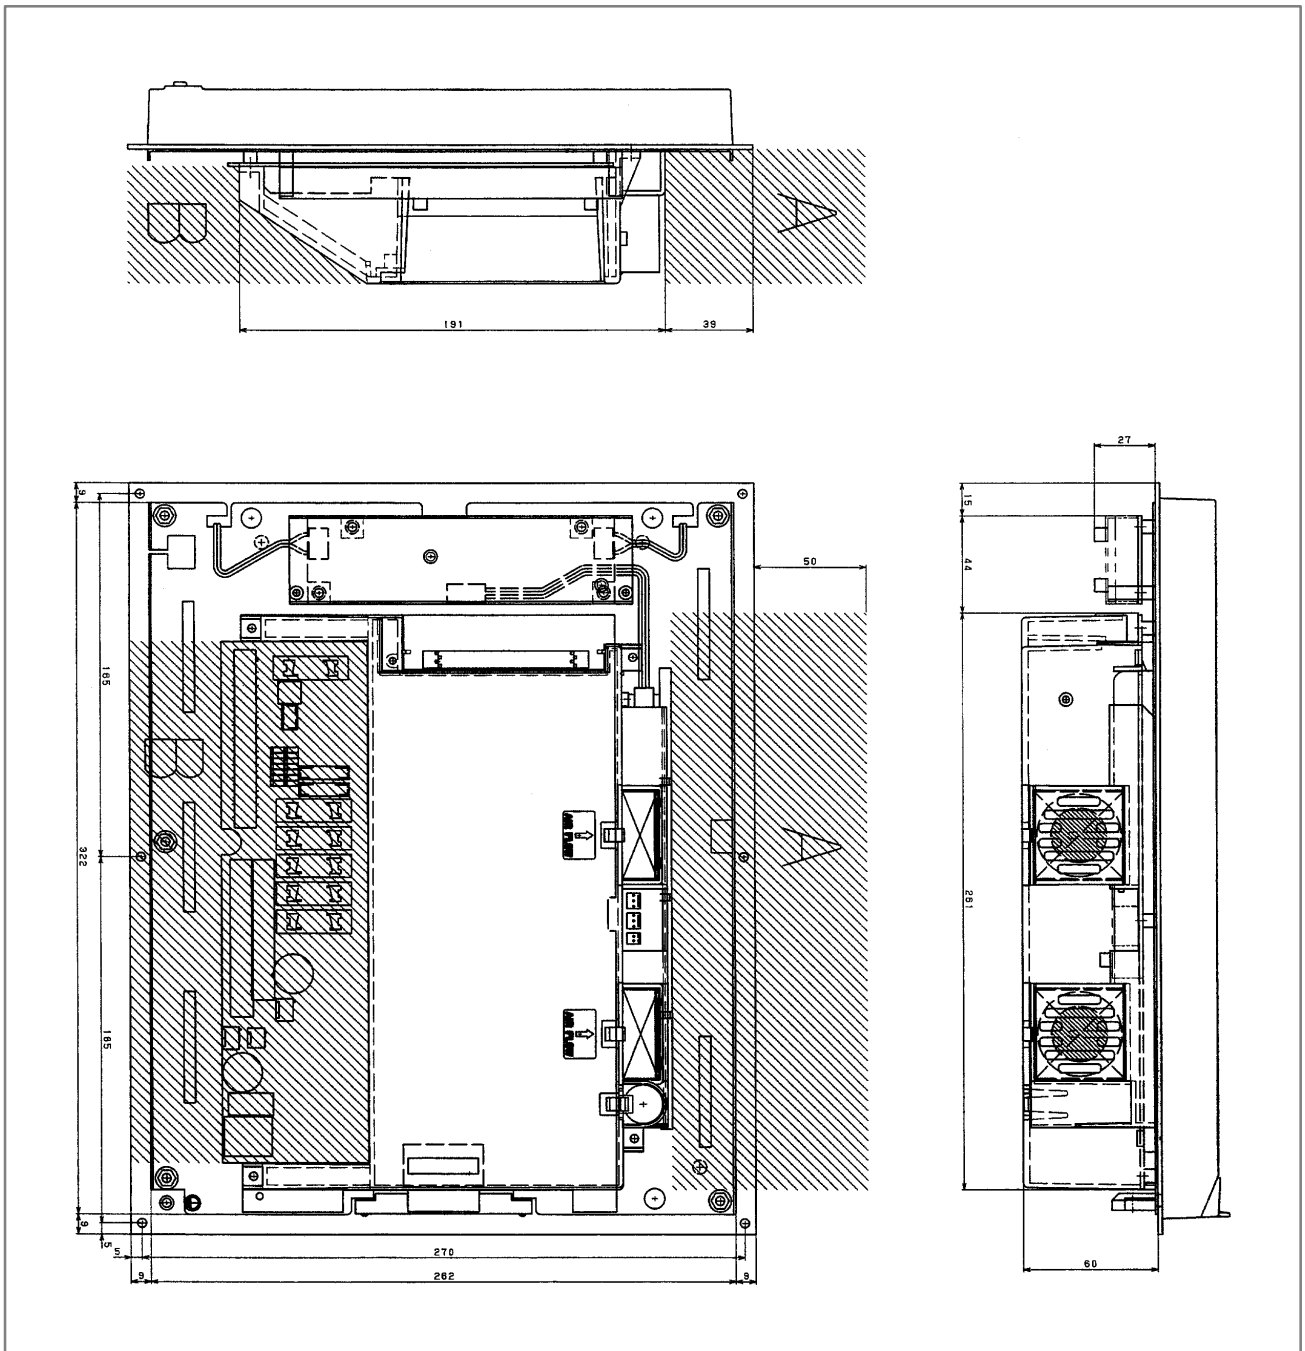

Fig. 1
- 2) Figures 1 to 6 show the external dimension of the basic unit with 12.1" LCD.